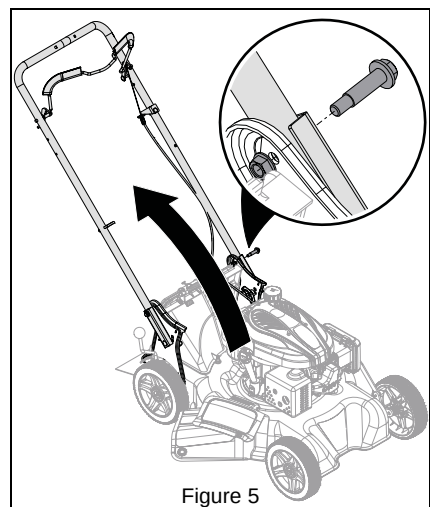

Figure 5
3. Rotate handlebar to desired position and secure with mounting hardware. See Figure 5.